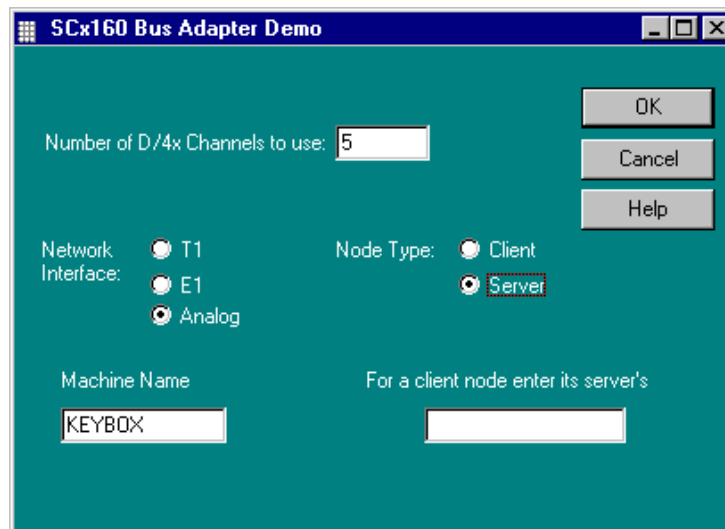

Figure 17. SCX160 Bus Adapter Demo Window
2. Click on the WinSCxDemo icon in the Dialogic Development Package or the Dialogic System Software Folder/Program Group. The SCX160 Bus Adapter Demo window, as shown in *Figure 17. SCX160 Bus Adapter Demo Window*, is displayed.